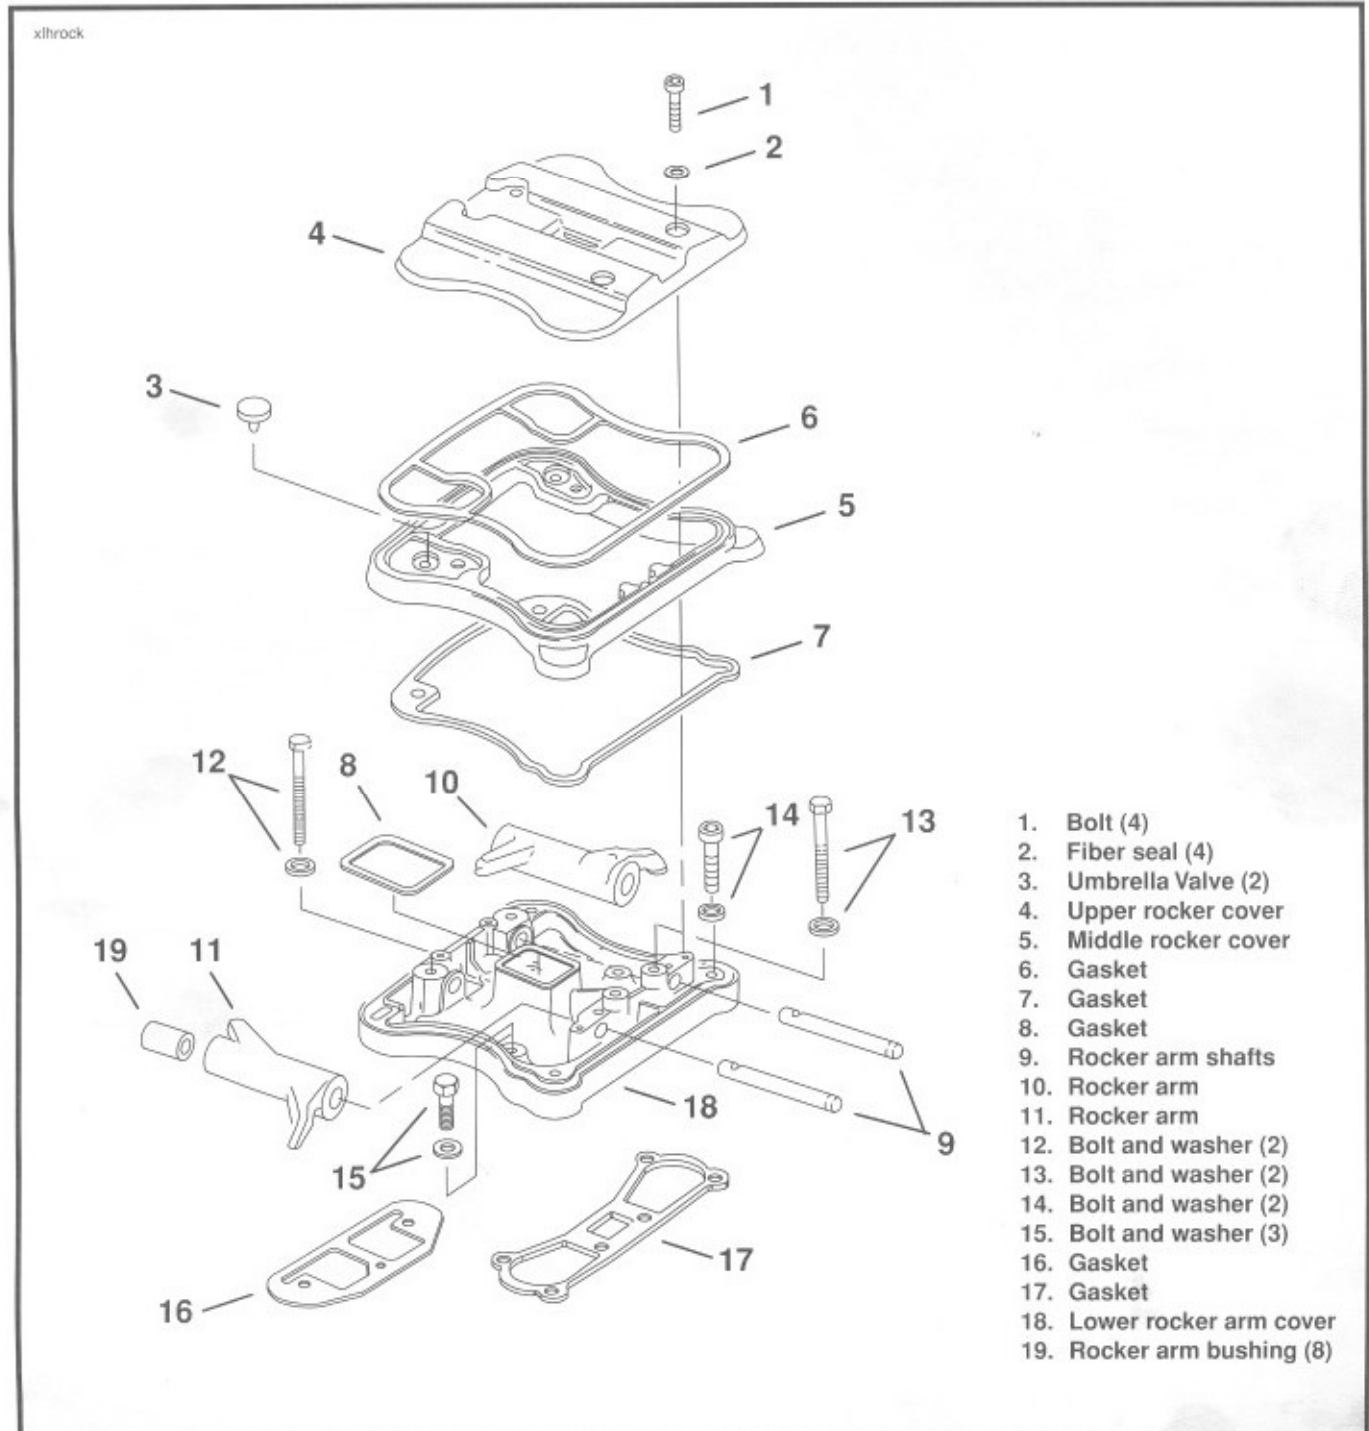

Figure 3-5. Rocker Arm Cover
1. See Figure 3-5. Remove four bolts (1) and fiber seals (2). Discard fiber seals.
8. See Figure 3-5. Remove rocker arms (10, 11); mark them for reassembly in their original locations.